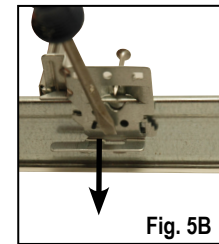

Fig. 5B
6. If desired, bend the break-away flange on the hanger bar foot to snap off. This can prevent interference with adjacent ceiling tiles. (Fig. 5B)